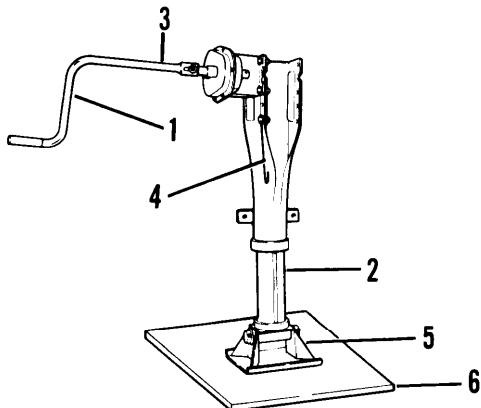

Figure 2-1. Landing Leg
- a. Rotating handcrank (1, fig. 2-1) operates the landing gear. Turning the handcrank (1) clockwise lowers landing legs (2) for parking semitrailer.
- b. Counterclockwise rotation raises legs (2) to towing position.
- c. Pushing operating shaft (3) in engages low speed gear for ease and speed in raising or lowering legs (2).
- d. Pulling operating shaft (3) out engages high speed gear for raising or lowering legs (2).
- e. Crank stow bracket (4) holds the crank when not in use.
- f. Landing gear shoe (5) keeps the legs (2) from sinking into the ground.
- h. Float pads (6) (Ground Board Assembly). See para. 2-2.